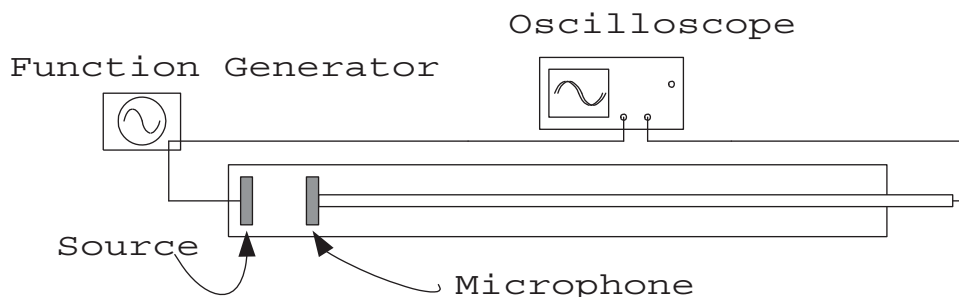

Figure 3.2: Apparatus for measuring the speed of sound.
1. Set up the apparatus as sketched in Fig.3.2. The function generator should be